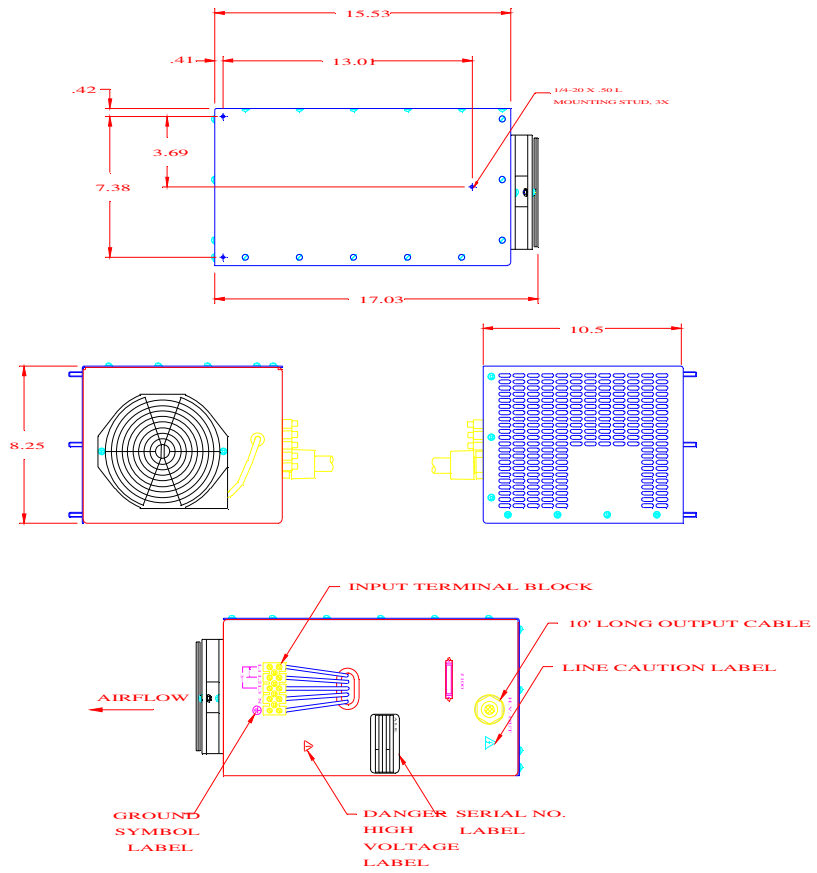

Figure 3. Mechanical Details
2.13 SIZE: Refer to Fig. 3 for detailed dimensions.